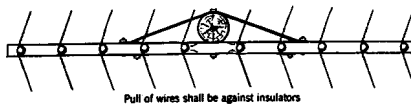

Figure 2. Type "A" Crossarm: Wire Placement at Corner.
- 2.04 Figure 2 shows placement at corners.